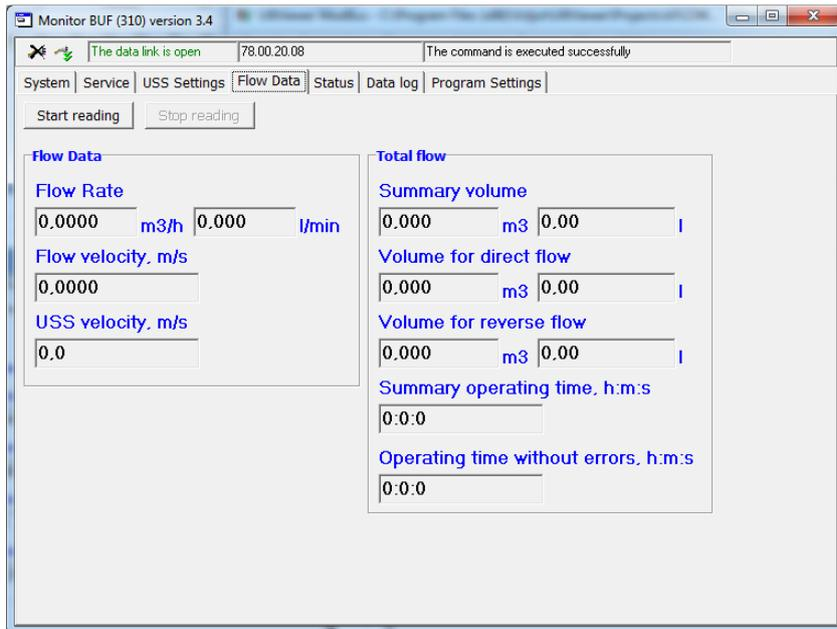

Fig.12. View of the Flow Data tab
- 4.1.5. You can view the current values of the measured parameters on the **Flow Data** tab (Fig.12) after pressing the **Start reading** button.